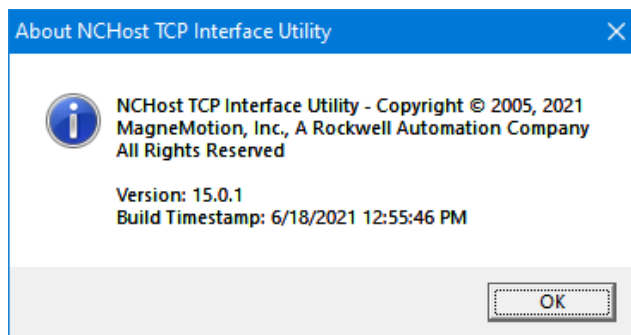

Figure 4-11: About NCHost TCP Interface Utility Message
- **About NCHost TCP Interface Utility** – Select to view version information as shown in Figure 4-11.